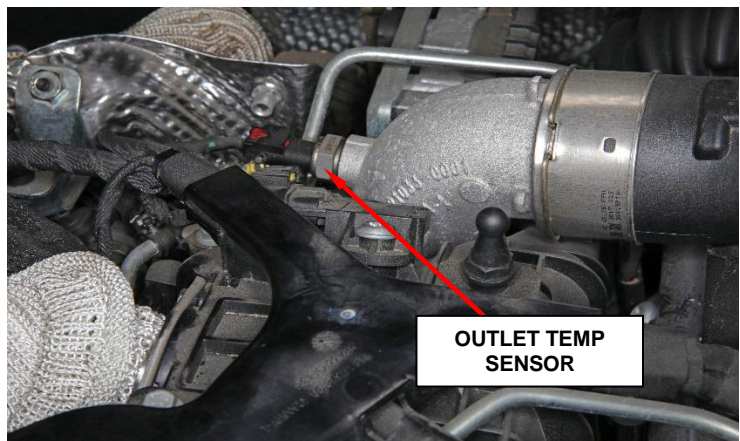

Figure 12 – Turbocharger Outlet Temp Sensor
14. Disconnect the turbocharger outlet temperature sensor wire harness connector (Figure 12).